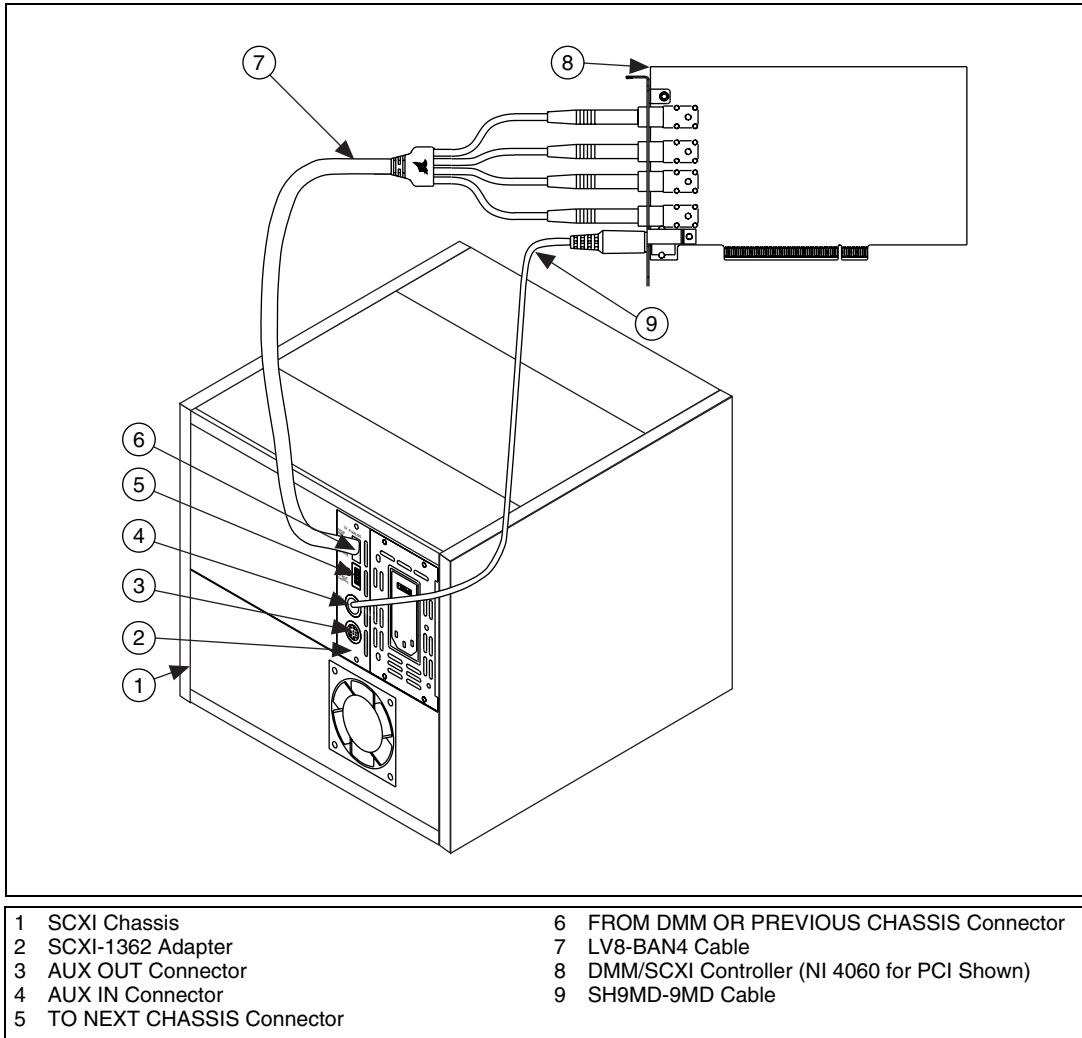

Figure 1. Installing Your SCXI-1362 Kit
Figure 1 shows the components of your SCXI system and how to connect them.
7. Connect the end of the LV8-BAN4 cable with the four banana plugs to the banana jacks located on your DMM/SCXI controller, as shown in Figure 1.